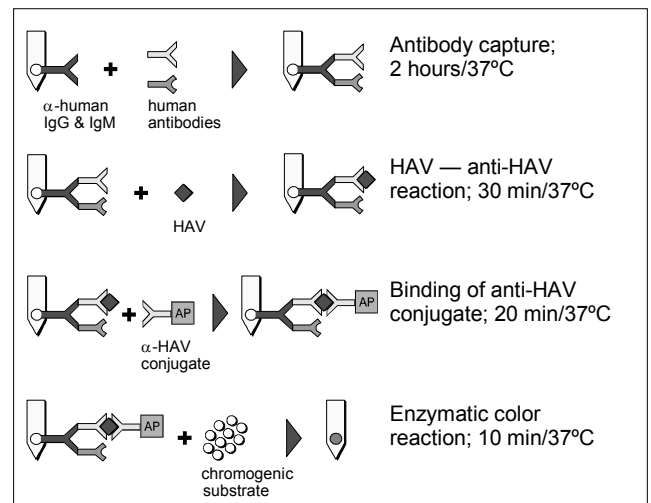

Figure 1. Principle of the Test
At the outset of the test, serum or plasma specimens are prediluted 1:50 and added to the diluent in the wells of row A of the Developing Plate. The Card is then inserted in the wells of row A. IgG and IgM will be captured by the anti-IgG and anti-IgM antibodies on the lower spots on the teeth of the Card (Figure 1). Unbound components are washed away in row B. In row C, anti-HAV IgG and IgM antibodies captured on the teeth will react with HAV antigen. Simultaneously, HAV antigen will also bind to the anti-HAV antibody on the upper spot (Internal Control). In row D the bound HAV antigen will react with monoclonal anti-HAV antibody labeled with alkaline phosphatase (AP). In row E unbound components are removed by washing. In row F, the bound alkaline phosphatase will react with chromogenic components. The results are visible as gray-blue spots on the surface of the teeth of the Card.